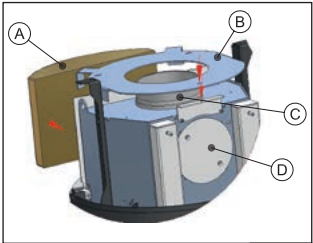

Fig. 6a
(Only if retro fitting storage stones). Firstly fit the front stone (A). Next, fit the supporting plate (B) (Fig. 6a).